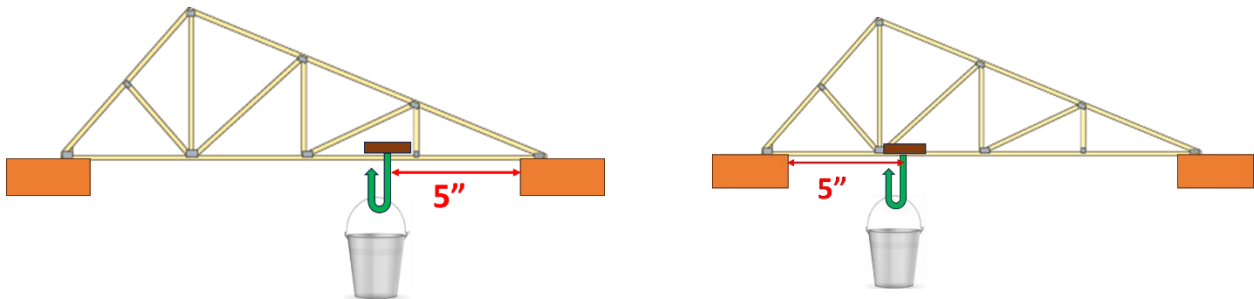

Figure 6: Loading Plat position.
- b. The loading plate will be positioned 5" (inches) from the support end, not at the center of the bridge, as illustrated in Figure 6. Students have the flexibility to choose on which side of the bridge to place it.
4. The bridge's load-bearing capacity is evaluated using the configuration outlined in Figure 6. The load testing machine records the maximum load, which is considered the bridge's load capacity, irrespective of when failure occurs.